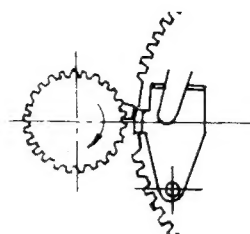

Fig. 3
3. The engagement is very easy to move as it simply rests on the lower trip. On the music section of the record groove the engagement moves so slightly that it is returned by the tip of the projection. Consequently, the turntable spindle gear does not engage with the main gear and thus does not trigger the auto-return operation as shown in Fig. 3.